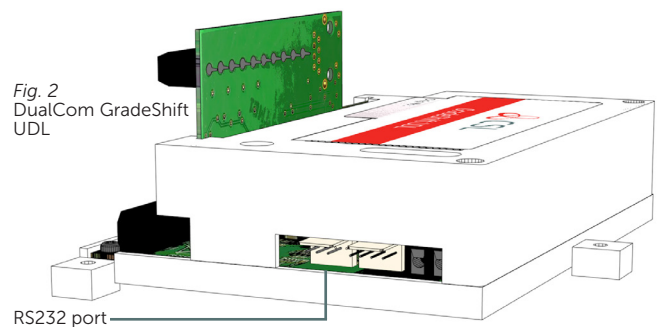

Fig. 2
- 3) Once programmed, power down the control panel and DualCom then fit the i-on Interface Board onto the plug-on connectors on the control panel (see fig. 1a/1b) ensuring all pins are aligned correctly. Connect the supplied interface lead from the CS0427 interface to the DualCom RS232 port (see fig. 2).